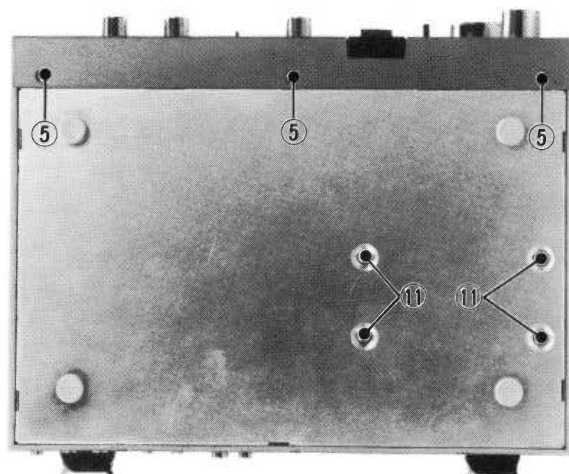

Fig. 17
- (1) Remove a screw (8) = SBSB3006Z fixing the tuner P.W. board.
- (2) Remove 3 screws (9) = SSSP3006Z, 2 screws (13) = LPSP3006Z and VR nut (14) on the front of chassis.
- (3) Remove 2 bar cap (10) of the power switch and disconnect the wires connector.
5. Amplifier P.W.B. ass'y (Fig. 17, 20)